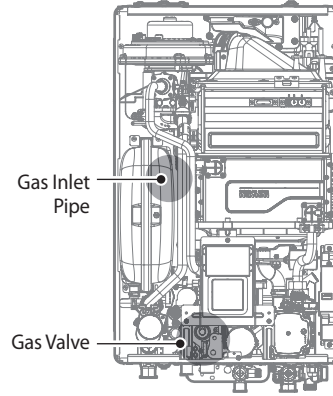
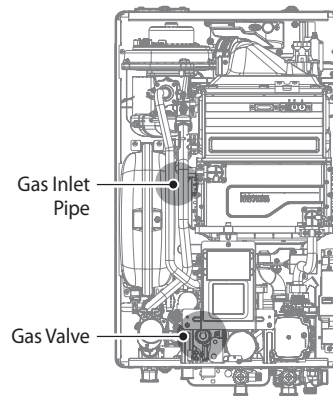

Figure 2-1. NCB700-42C Internal Components
Figure 2-2. NCB700-52C Internal Components
8. With the internal components exposed, locate the gas inlet pipe and the gas valve in the middle of the unit, as shown in Figure 2-1 and Figure 2-2.